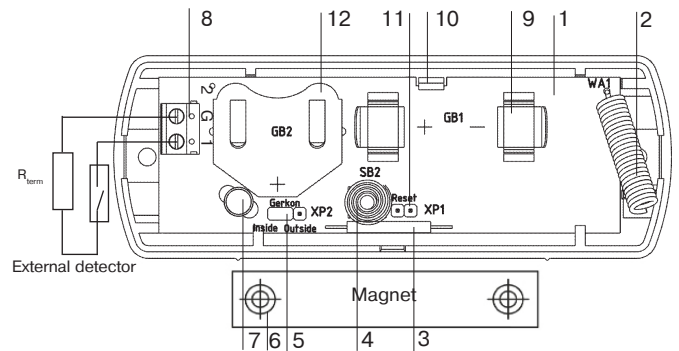

Figure 1
9.2 Install the PCB, connect the wires of monitored loops to terminal blocks (8) and close the cover. The length of the loops must not exceed 5 m. Install the terminal (EOL) resistor R_{term} (5.1 kΩ) at the end of the loop as shown in Figure 1. The connections must be soldered or screwed.